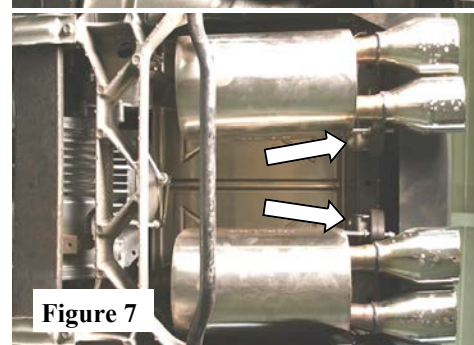

Figure 7
2. Place a clamp over each expanded ends of each Over-Axle Pipe. Starting with the R/H Muffler Assembly, and insert inlet into R/H Over-Axle Pipe and carefully insert hangars into runner isolators. Repeat step for the L/H Muffler Assembly. (See Fig. 7) DO NOT TIGHTEN HARDWARE.